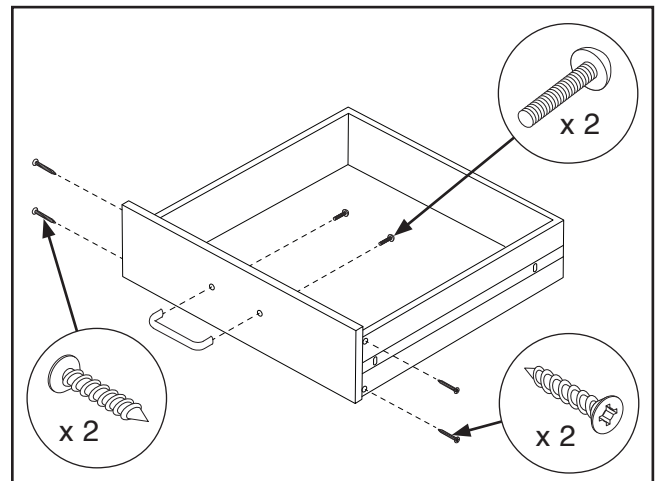

Figure 5. Assembling drawer base panel, front panel, and handle.
2. Slide (1) drawer base panel into slots in drawer side panels, then attach (1) drawer front panel using (4) M4 x 30 tap screws, as shown in **Figure 5**.
3. Attach (1) handle to drawer front panel with (2) M4-.7 x 40 Phillips head screws (see **Figure 5**).